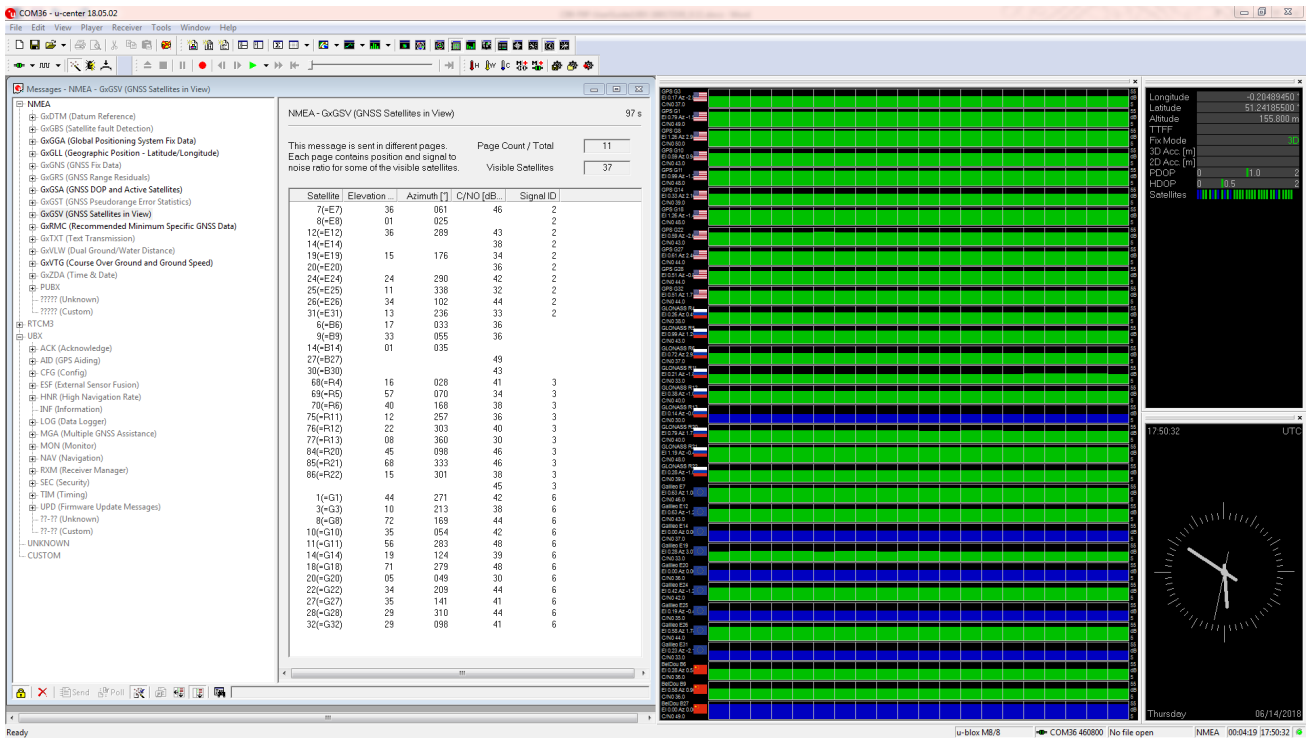

Figure 3: u-center showing a view of the ZED-F9P default operation
- The time pulse LED on the C099-F9P board will blink in blue once the ZED-F9P has obtained valid time information. Figure 3 below shows a typical u-center view with active satellite signal levels.